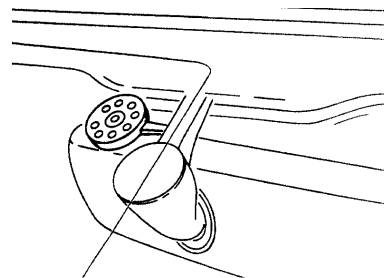

Figure 3
- With automatic dimming (anti-dazzle) mirror: To the right of the cable cover, with the connecting cable pointing toward the cable cover (Figure 3).